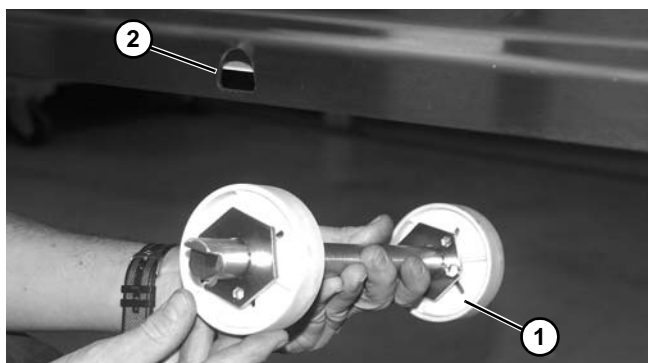

Figure 30
3. Install belt return assembly (**Figure 30, item 1**) onto the slotted holes (**Figure 30, item 2**) on each side of conveyor frame.